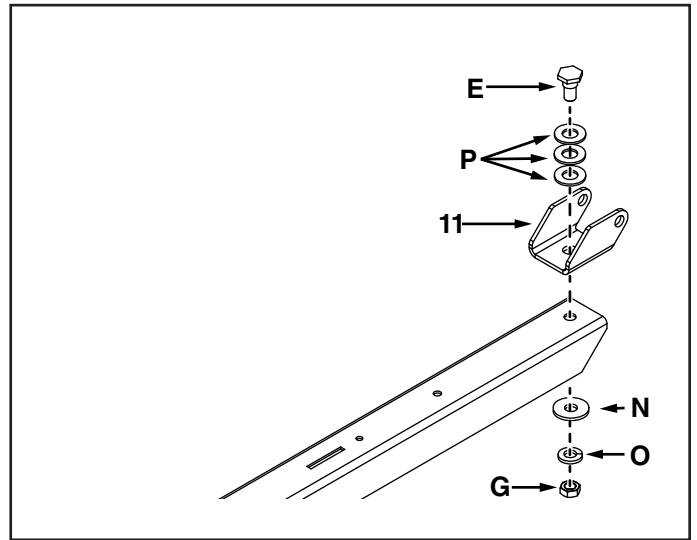

FIGURE 2
STEP 2: (SEE FIGURE 2)
1. Attach the pivot clevis to the tongue using a 1/2" x 1-1/8" bolt (E), a 5/8" x .656" washer (P), a 1/2" x 1-1/2" washer (N), a 1/2" lock washer (O), and a 1/2" jam nut (G).